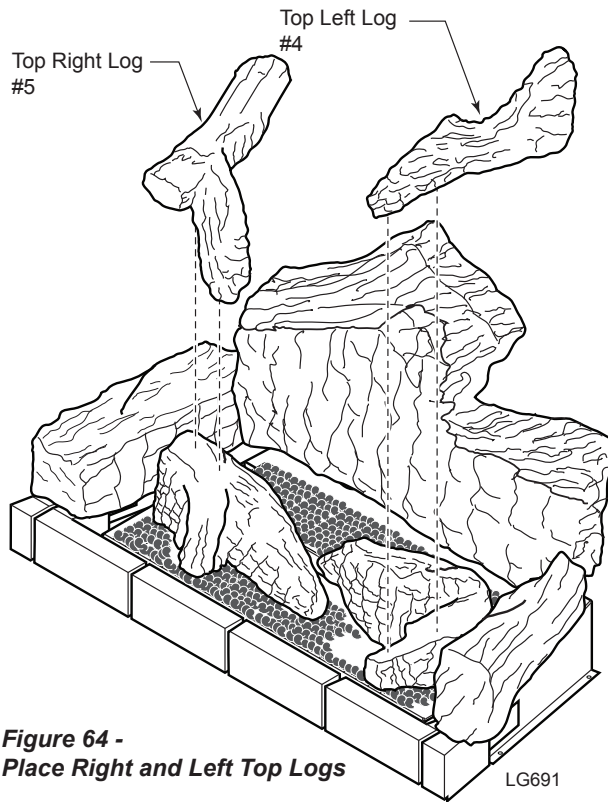

**Figure 62 -
6. Place bottom left log (#2) on two pins against left side of firebox. *Figure 62*